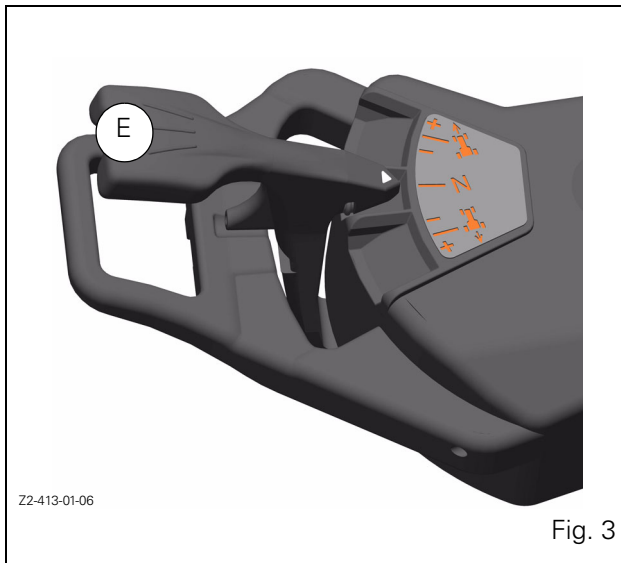

Fig. 3
- or by lifting lever E Fig. 3 until display B Fig. 2 appears.
*NOTE: Reverse shuttle lever E Fig. 3 may also be used to change the Powershift ratios (see § Power Shuttle).*
- Check that the transmission is engaged and reverse shuttle lever E Fig. 3 is in neutral.
- Place reverse shuttle lever E Fig. 3 in forward or reverse travel.
- Move reverse shuttle lever E Fig. 3 to select the desired Powershift ratio, and also press button D Fig. 2 to shift to a higher or lower range.
- Move reverse shuttle lever E Fig. 3 back to neutral.
- Move reverse shuttle lever E Fig. 3 to select the range and the desired Powershift ratio.
Control located to the left of the steering wheel (Fig. 3).
The reverse shuttle control E Fig. 3 is used for rapid selection of forward or reverse travel; it is also used to change the Powershift ratios quickly or to control the tractor clutch. The reverse shuttle tempo may be adjusted according to user preference.
- Reverse shuttle: Place reverse shuttle control E Fig. 3 in the desired direction of travel; the corresponding indicator light on the instrument panel will come on. When the tractor is in motion, each change to the direction is made using the control ref. 1, without disengaging the clutch.
**DANGER:** Before leaving the seat, you must move reverse shuttle control E Fig. 3 to NEUTRAL position. Apply the hand brake.
**DANGER:** Always place the transmission lever in neutral and reverse shuttle control lever E Fig. 3 in NEUTRAL position before leaving the operator's seat. Apply the hand brake.